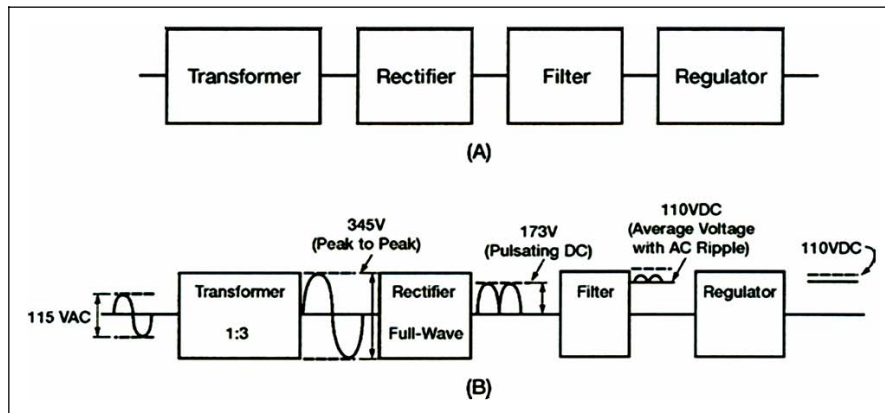

Figure 4-1. Block Diagram of a Basic Power Supply
4-2. Figure 4-1, view (A) shows the block diagram of a basic power supply. Most power supplies are made up of the following four basic sections:
4-3. Figure 4-1, view (B) shows the first section as the TRANSFORMER. The transformer steps up or steps down the input line voltage and isolates the power supply from the power line. The RECTIFIER section converts the AC input signal to a pulsating DC voltage. However, you will see later on in this chapter that the pulsating DC is not desirable. For this reason, a FILTER section is used to convert pulsating DC to a purer, more desirable form of DC voltage. The REGULATOR section does just what the name implies, it maintains the output of the power supply at a constant level in spite of large changes in load current or input line voltages.
4-4. Now that you know what each section does, let us trace an AC signal through the power supply. At this point you need to see how this signal is altered within each section of the power supply. You will see later how these changes take place. In Figure 4-1, view (B), an input signal of 115 volts AC is applied to the primary of the transformer. The transformer is a step-up transformer with a turns ratio of 1:3. You can calculate the output for this transformer by multiplying the input voltage by the ratio of turns in the primary to the ratio of turns in the secondary. Therefore, 115 volts AC \times 3 = 345 volts AC (peak-to-peak) at the output. Since each diode in the rectifier section conducts for 180 degrees of the 360-degree input, the output of the rectifier will be one-half, or approximately 173 volts of pulsating DC. The filter section, a network of resistors, capacitors, or inductors; controls the rise and fall time of the varying signal. Consequently, the signal remains at a more constant DC level. You will see the filter process more clearly in the discussion of the actual filter circuits. The output of the filter is a signal of 110 volts DC, with AC ripple riding on the DC. The reason for the lower voltage (average voltage) will be explained later in the chapter. The regulator maintains its output at a constant 110-volt DC level, which is used by the electronic equipment (more commonly called the load).